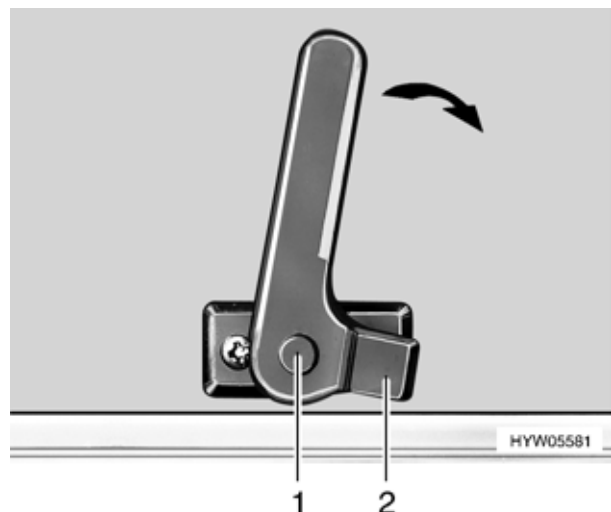

Fig. 47 Hinged window, window handle open (variant 3)
- Return window handle into its original position. Move the fork on the window handle (Fig. 47,2) into the recess on the window frame.
Ensure that the window handle is secured by means of the safety knob (Fig. 47,1).